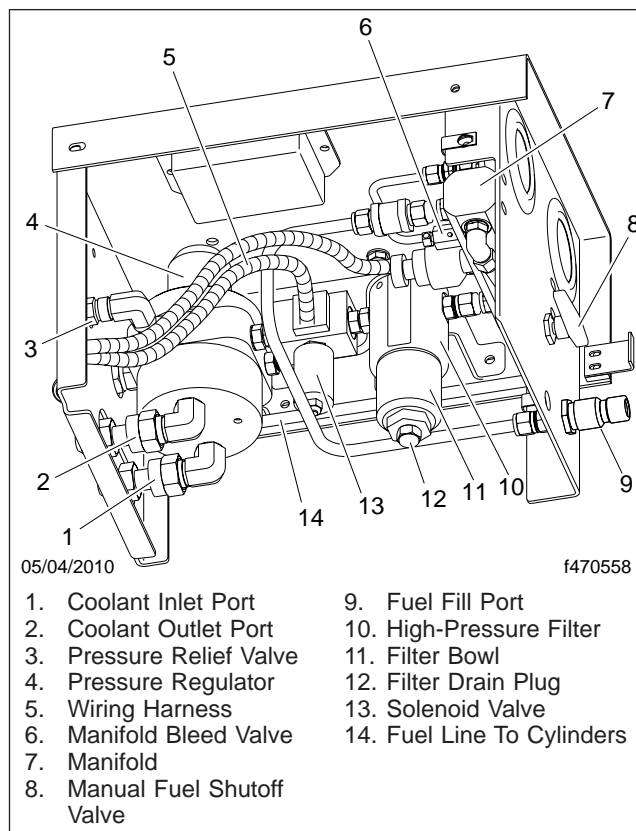

Fig. 11.15, CNG Fuel Panel Components
- 2.4 Slowly open the bleed valve on the manifold to relieve remaining fuel pressure within the system. See Fig. 11.15.